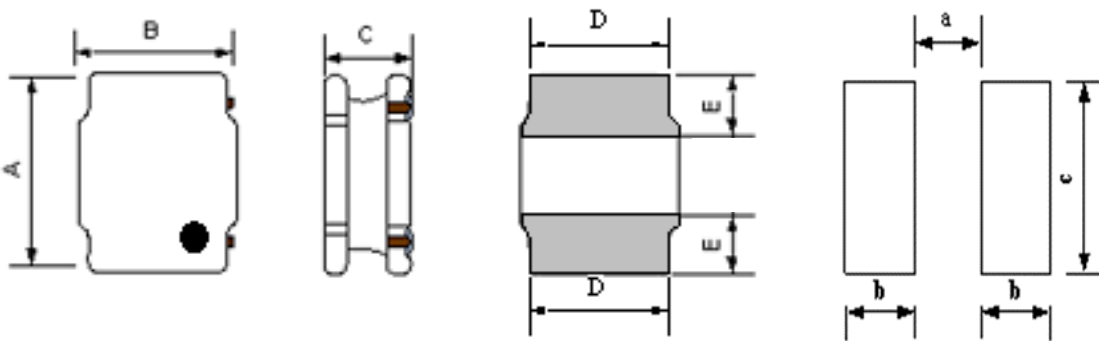
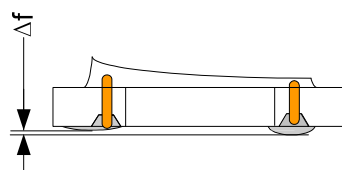

Fig. 4-1
Fig. 4-2
- 1) Dimensions and recommended PCB pattern for reflow soldering, please see **Fig. 4-1**, **Fig. 4-2** and **Table 4-1**.